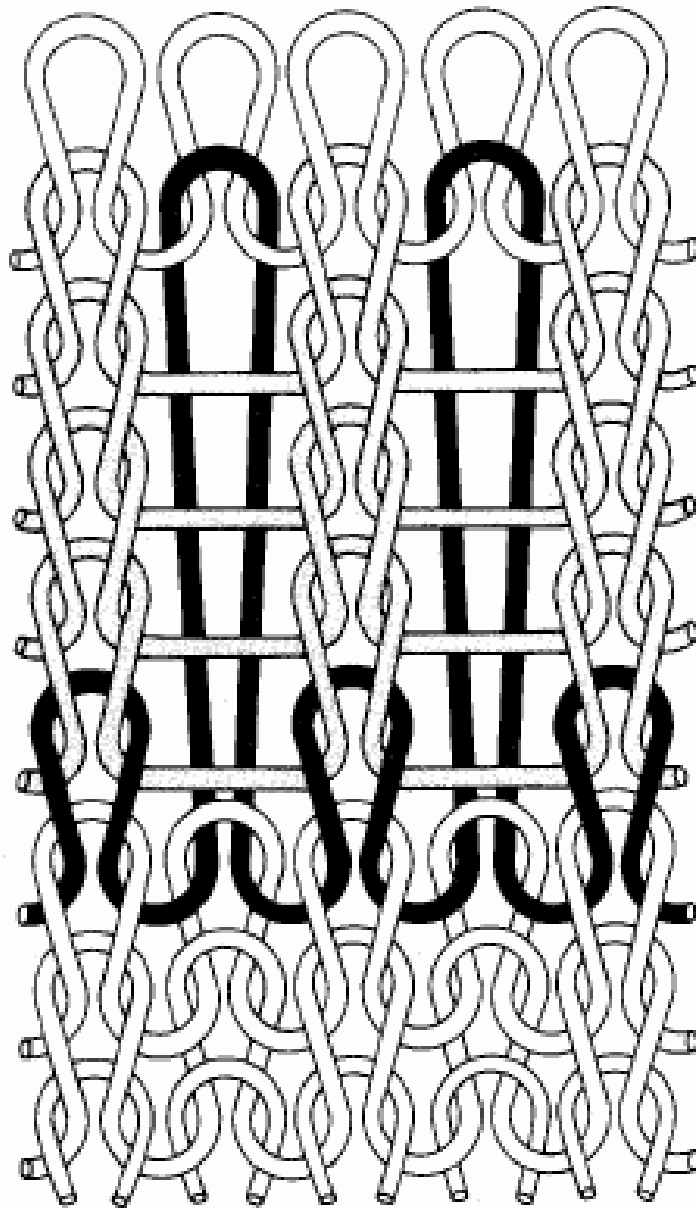

Fig. 16.5 Roll welt.
- *The roii welt* (Fig. 16.5) is produced by knitting approximately **four courses on one set of needles** only whilst continuing to **hold the setting-up course** of loops on the **other set of needles**.